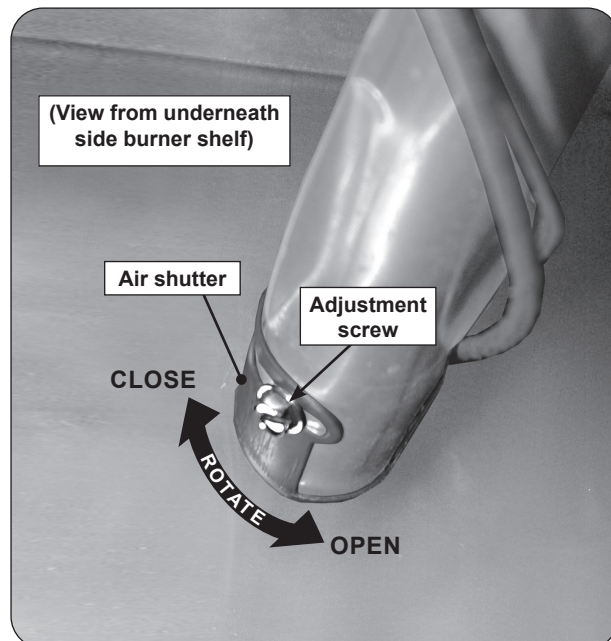

Fig. 40-1 Side burner air shutter adjustment detail
2. Loosen the adjustment screw with a flathead screwdriver, then carefully rotate the shutter to open or close it. See Fig. 40-1 for details.